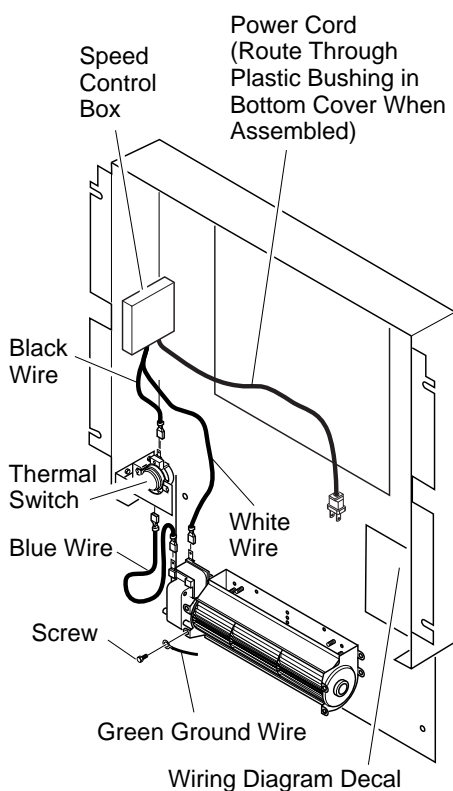

Figure 20 - Blower Wiring Layout
7. Place the green ground wire between the bottom hole on the blower assembly and the hex screw and tighten (see Figure 20, page 9).
8. Connect the blue wire to the blower assembly and one side of the thermal switch (see Figure 20, page 9).
9. Connect the black wire to the other side of the thermal switch (see Figure 20, page 9).
10. Connect the white wire to the other terminal on the blower motor assembly (see Figure 20, page 9). Make sure the thermal switch has been properly installed to fit against back of burner system after the rear cover assembly has been reinstalled.
13. Peel off the backing paper and stick the supplied wiring diagram decal on the inside of rear cover as shown (see Figure 20, page 9).